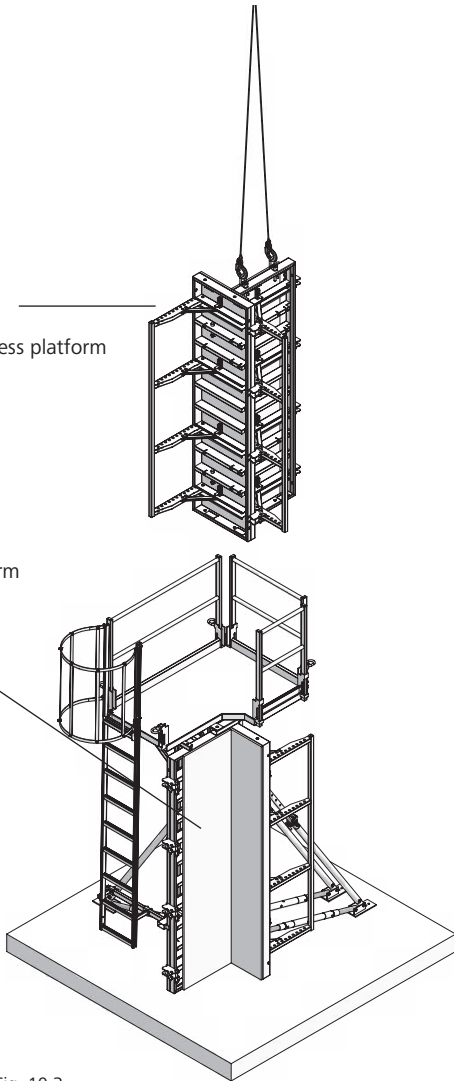

Fig. 10.3
2. Erect the panel unit without access platform and lift it up to the other unit (Fig. 10.3).